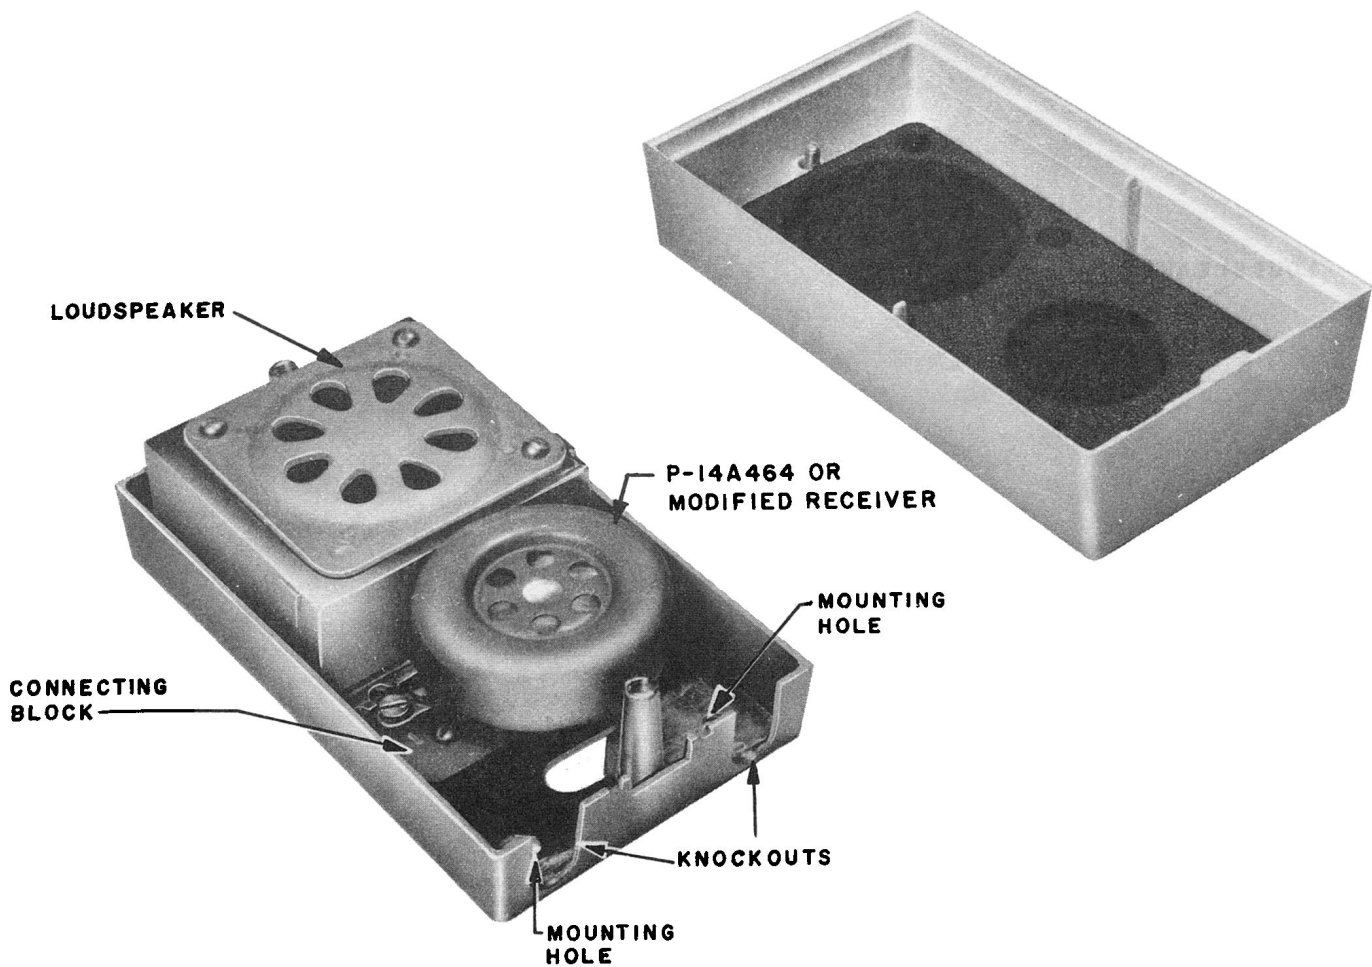

Fig. 7 – 730A Receiver
- Add notation on modified U1 receiver to 5.03 and Fig. 7.
3.06 The 730A receiver (door-answering), see Fig. 7, is mounted on the door casing or outside wall at a convenient height for microphone pickup and out of reach of children. If this location is not desirable, the speaker may be mounted overhead just above the door. Four mounting holes are provided in the base similar to those in the 759A loudspeaker. Wiring may enter through two holes provided in the base or through the end of the base by removing the knockouts. A backboard is not required for mounting. The 730A receiver is weatherproof. Additional weather protection is not required. Two cable pairs or a quad JKT are run directly to the 730A receiver. One pair is connected to screw terminals on the bottom of the P-14A464 receiver unit and the other pair is connected to the 2-terminal connecting block.